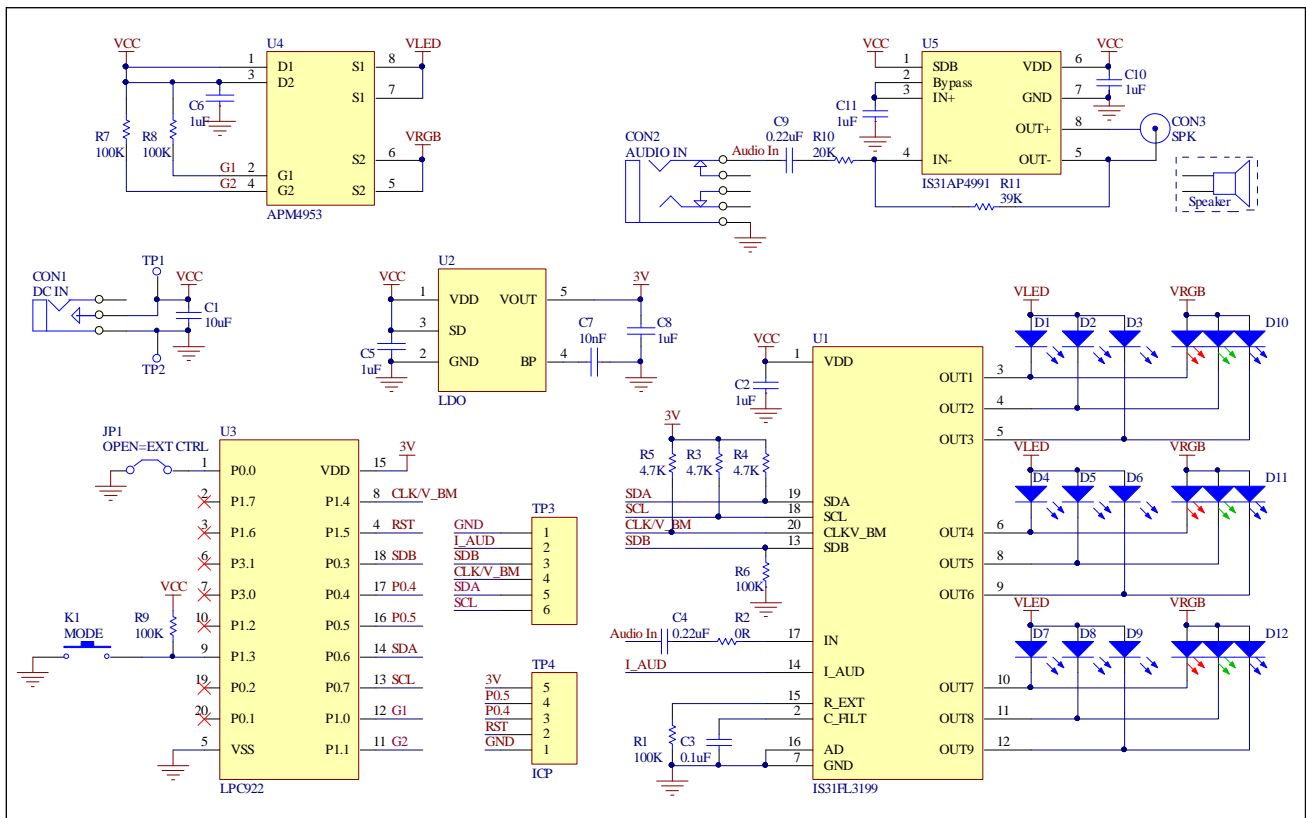

Figure 2: IS31FL3199 Application Schematic
*Table 2: Bill of Materials, refer to Figure 2 above.*